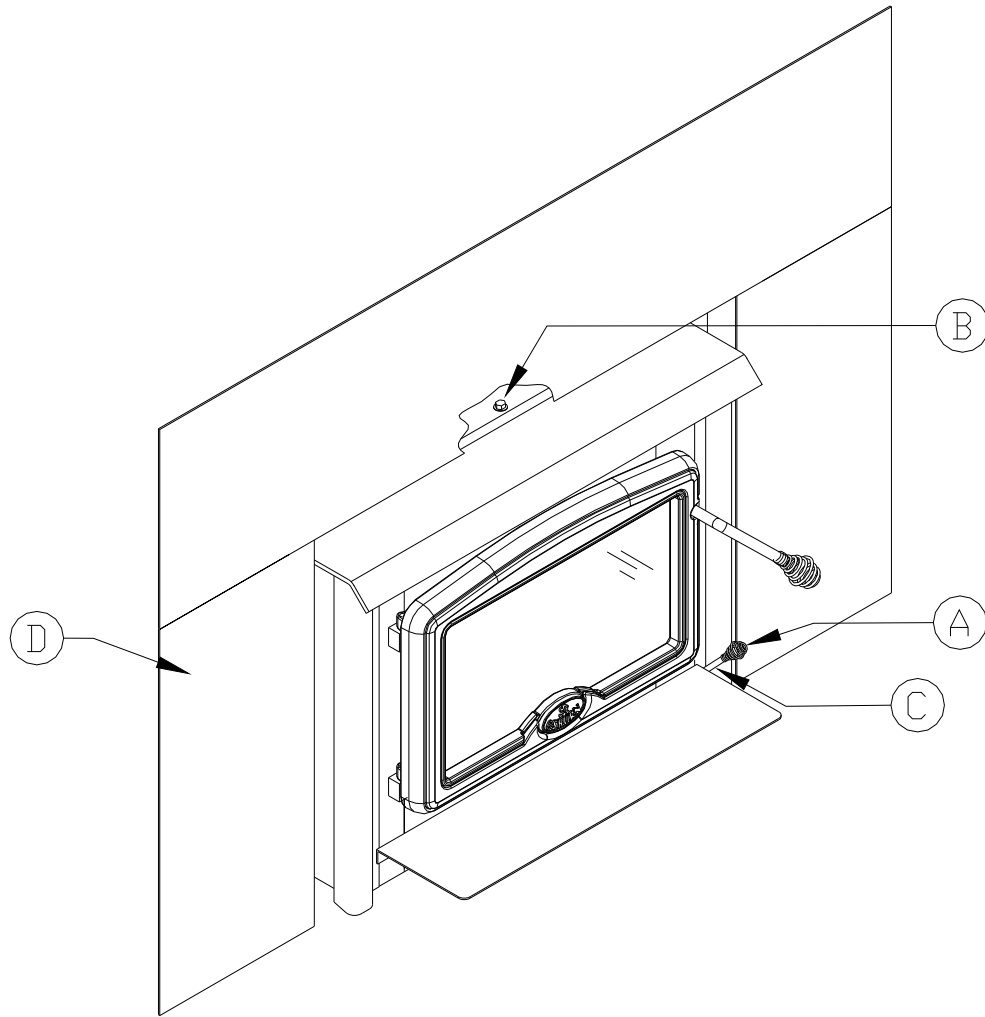

Figure 10
10. Push the air control (A) in, all the way. Slide the adjustable faceplate sleeve back into its original location until the faceplate fits tightly against the fireplace facing. See Figure 10. One 7/16" (11mm) open end wrench should be used to turn the nut (B), located above the cooktop in the center, up so that it securely fastens the adjustable faceplate sleeve to the top air jacket. Take the air control slider spring handle (C) from the firebox and turn it onto the 1/4" diameter (6mm) air control rod (A).